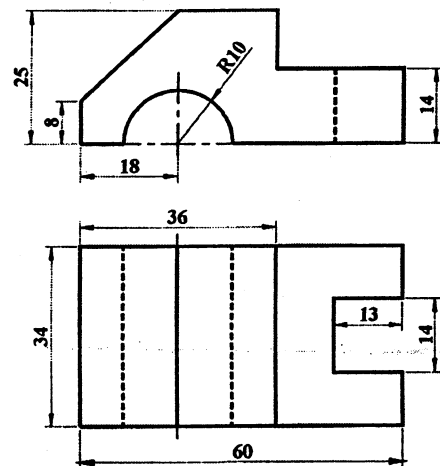

Figure P.2
2. Draw oblique drawing from the given orthographic views as shown in **Figure P.2**. [6]